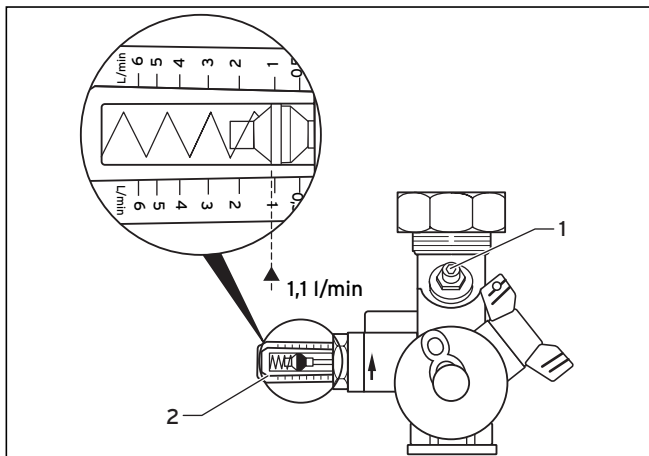

Fig. 6.2 Setting the flow rate
- Use an Allen key to finely adjust the flow rate at the adjustment valve (see Fig. 6.2 Pos. 1).
- The adjusted flow rate can be viewed on the display (2).
The installed (net) collector surface area for 3 VTK 570 units is 3.0 m². When multiplied by the specific volume flow value of 0.4 l/m²•min, this produces a calculated flow rate of 1.2 l/min. This should be displayed at the flow rate meter (see Fig. 6.2).